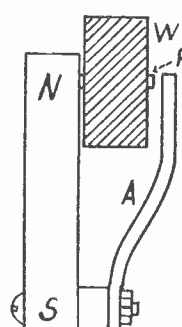

FIG. 3
A variation of this type of driver is shown in Fig. 3. A single straight magnet supplies the permanent field. A single spool of wire (W) is attached to one end of the magnet by means of a pole piece (p). The armature (A) is attached by means of a screw to the other end of the bar magnet and so adjusted that the free end of the armature is directly over the pole piece. A varying current sent through the spool varies the strength of the magnet and thus the free end of the armature is subjected to a varying pull.